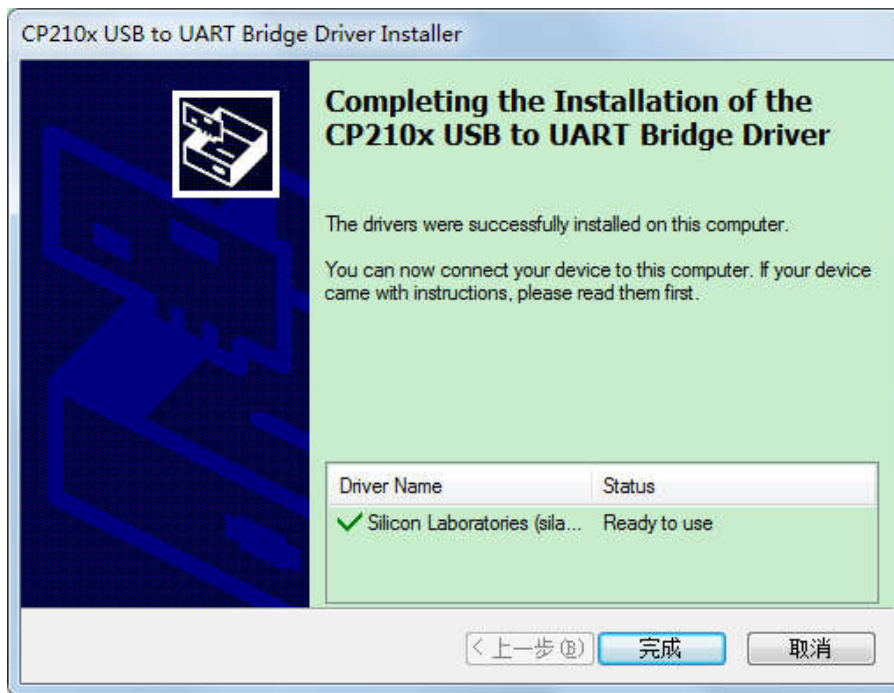

Figure 4-10 Pop-up window for USB installation complete
9. Upon USB driver installation, an installation complete window as shown in Figure 4-10 will pop up.